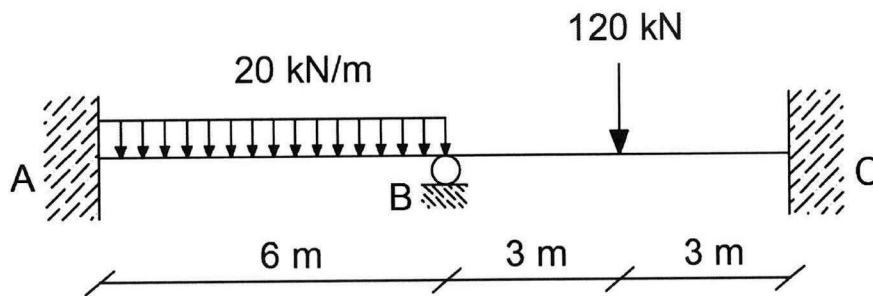

Figure 5(b)
- Q5** (a) In slope-deflection equation, the end moment is affected by two behaviors. Name these **two (2)** behavior. (2 marks)
- (b) A continuous beam that built-in at A and C is subjected to loads as shown in **Figure 5(b)**.